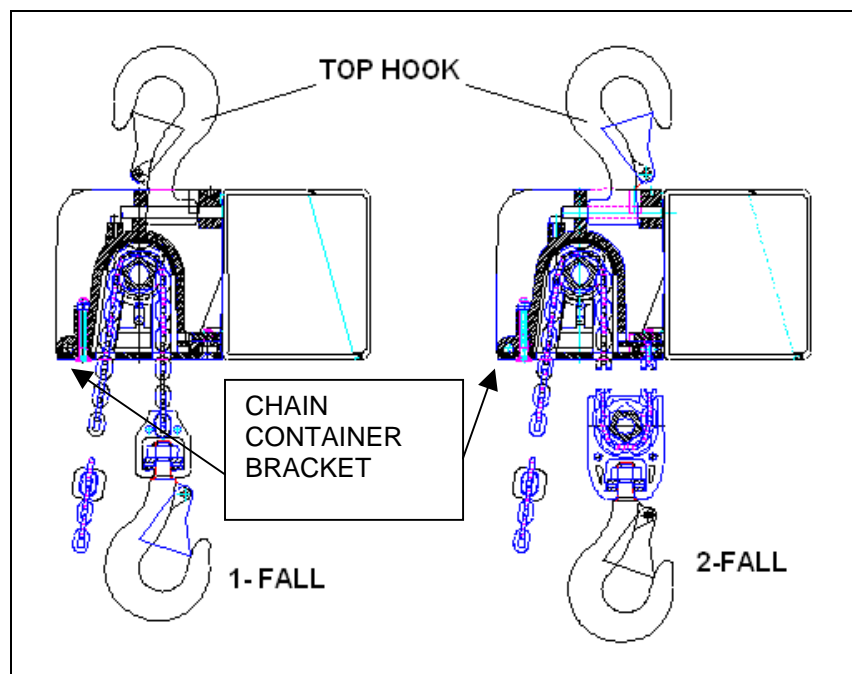

FIGURE 5.12
2. Determine number of chain falls: 1-fall or 2-fall – Reference Figure 5.12